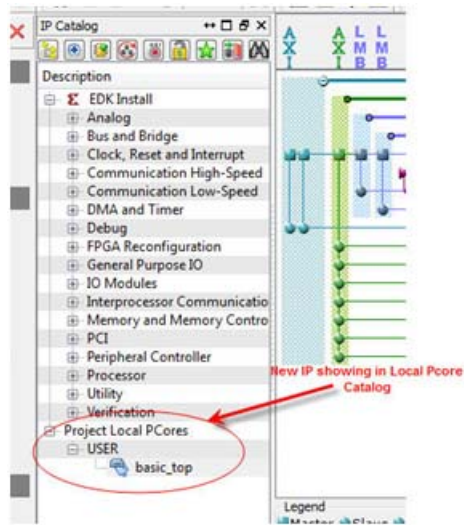

Figure 1-9: Add Generated PCORE
2. In XPS, add the generated PCORE from the IP catalog by selecting and clicking with left mouse on **PCORE**. The new PCORE will be under the Project Local PCores directory, as shown in Figure 1-9.